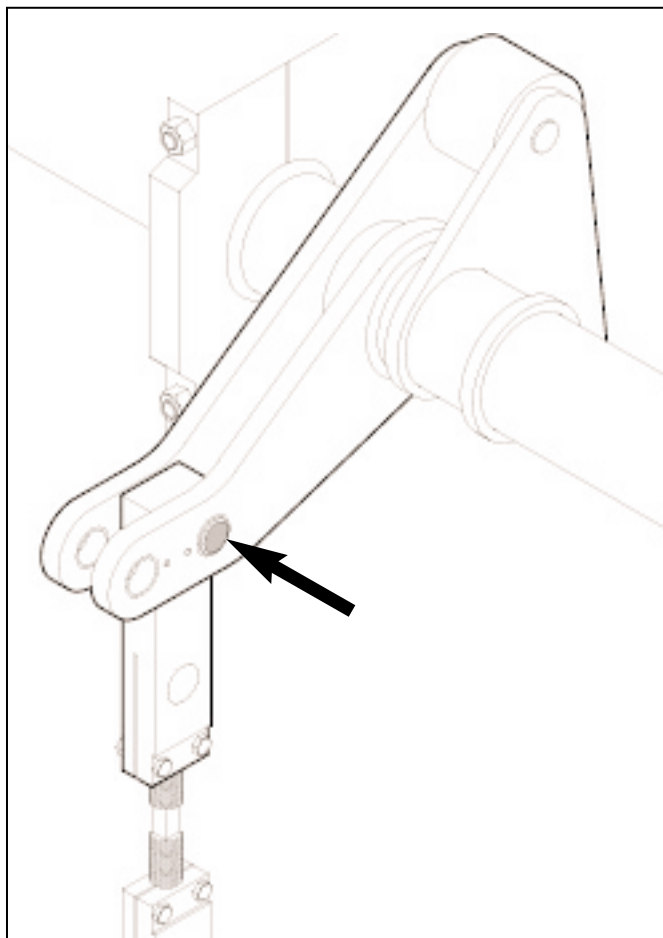

Figure 4.8 ADJUSTING STRIPPER HEAD ARMS
4.1.15 Position the pins in the inner holes of the stripper head shaft arms (see figure 4.8).